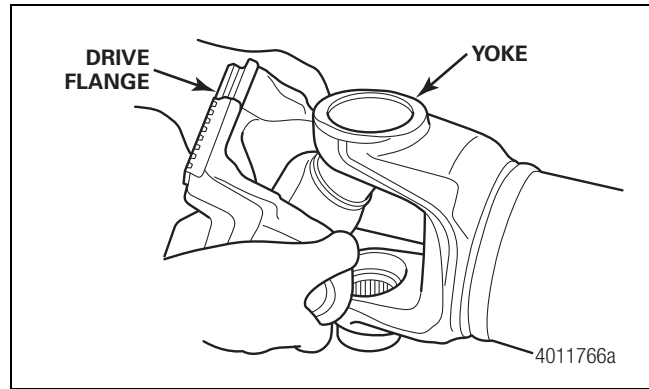

Figure 4.71
3. Install the flange assembly into the universal joint. Install the side without the cup first in the top then seat the rest down into the bottom. Figure 4.71.